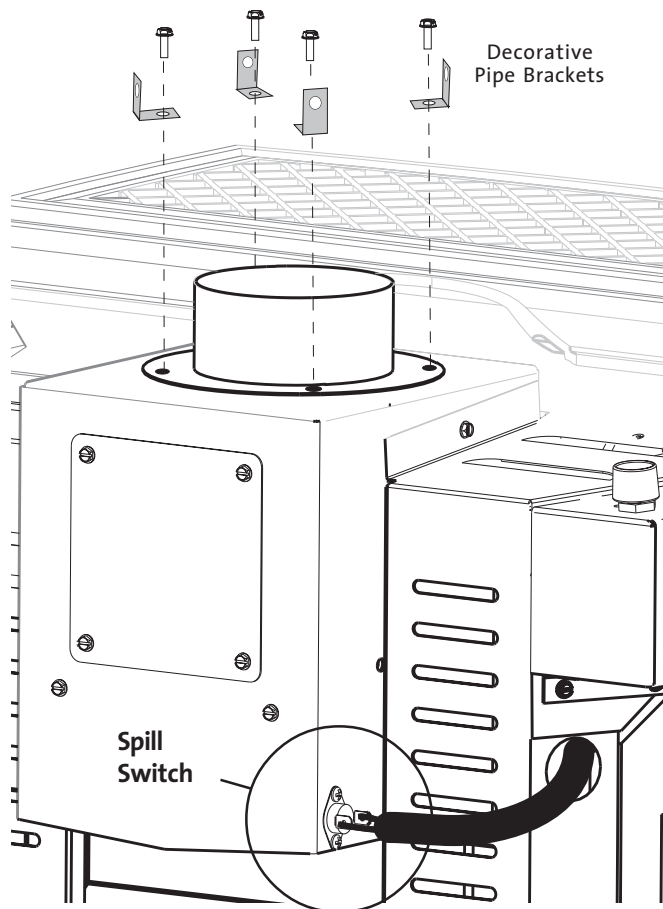

Figure 27.
1. Remove the four 1/4" hex head screws that attach the 4" Flue Collar to the draft hood, but do not remove the Flue Collar. See Figure 27.
**NOTE:** This appliance is equipped with a Spill Switch which will disable the burner in the event that the vent system becomes blocked. Located on the side of the Draft Hood, at the back of the stove, the switch has a reset button that, when pressed, will re-enable burner function. See Fig. 27.